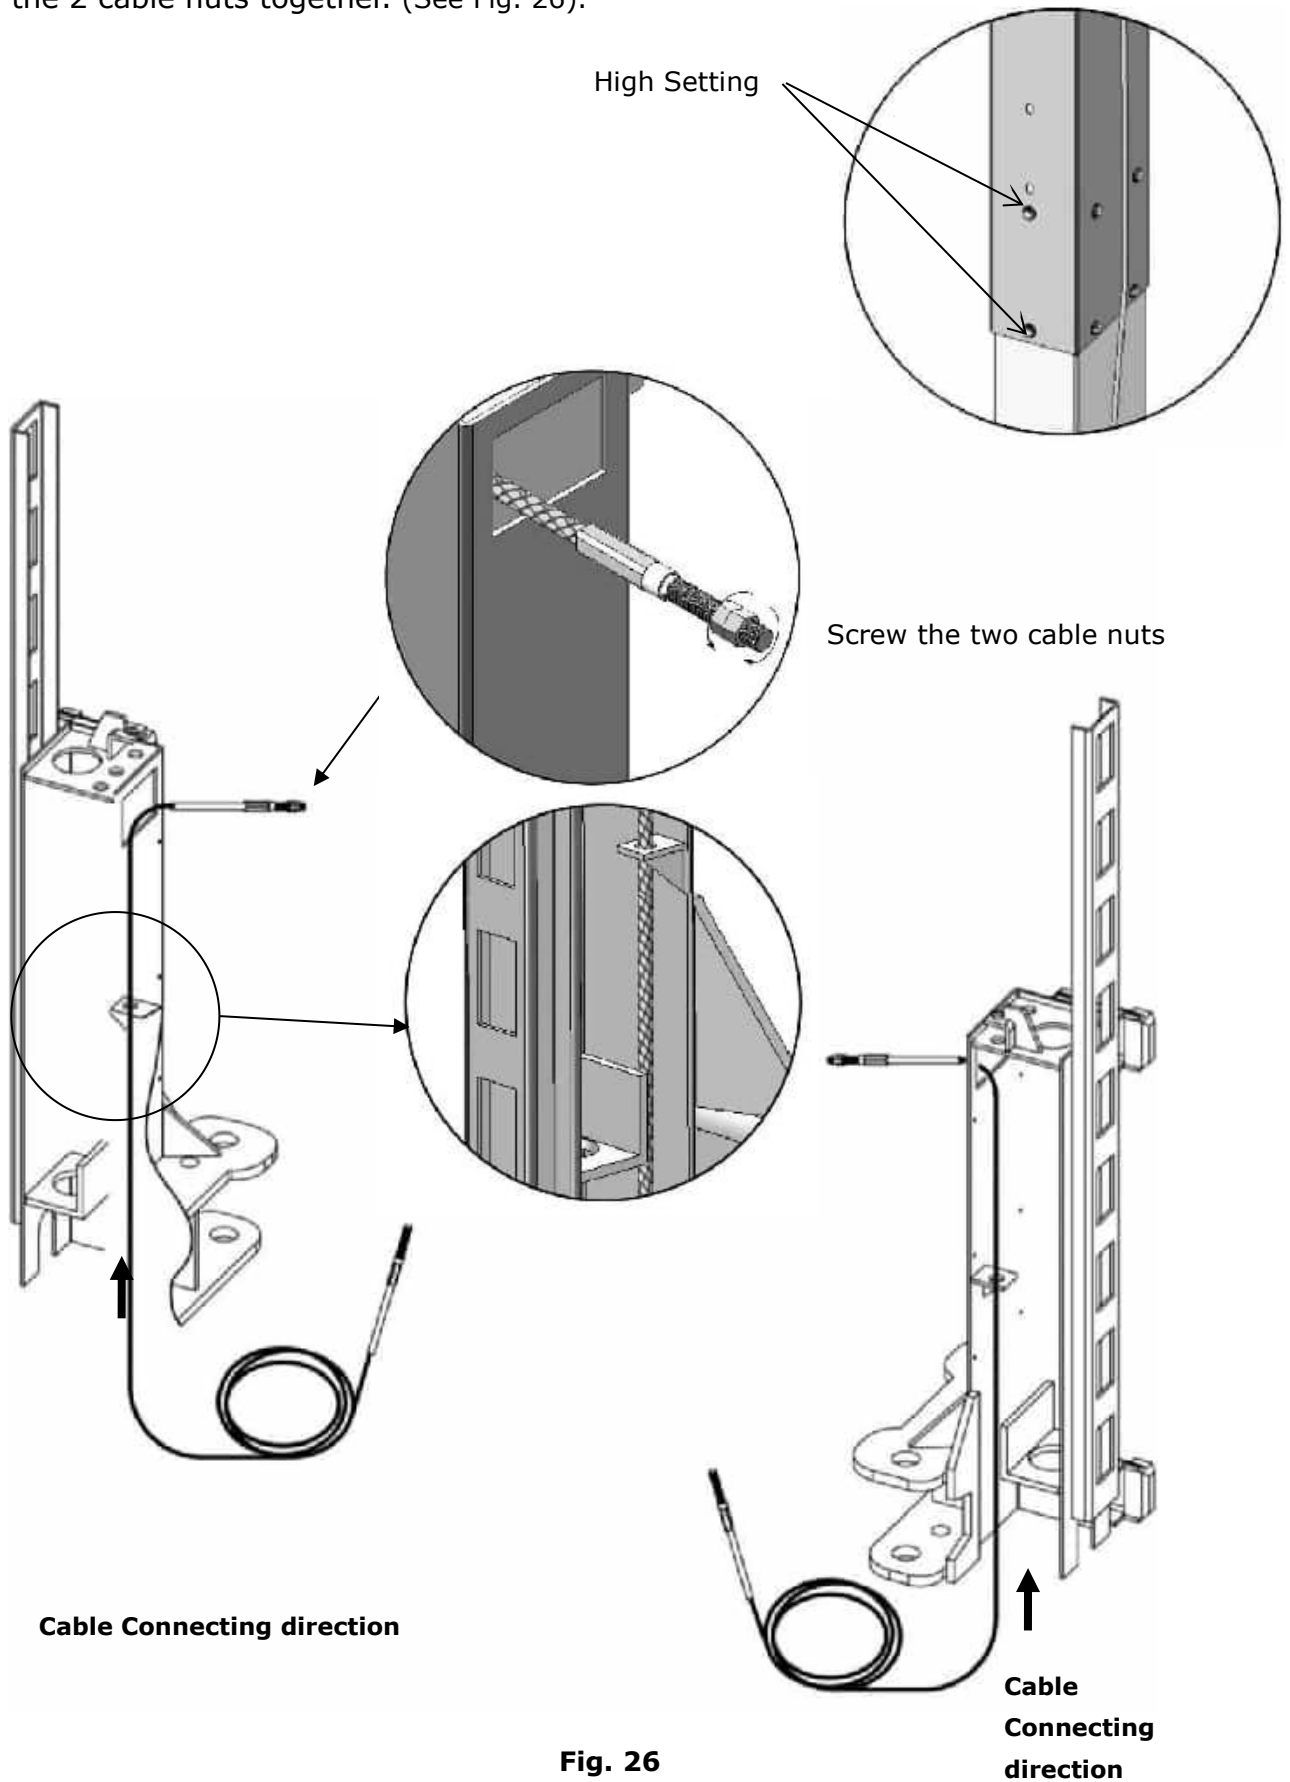

Fig. 26
2.1. Pass the cable from the bottom of the carriage to the carriage window, then screw up the 2 cable nuts together. (See Fig. 26).